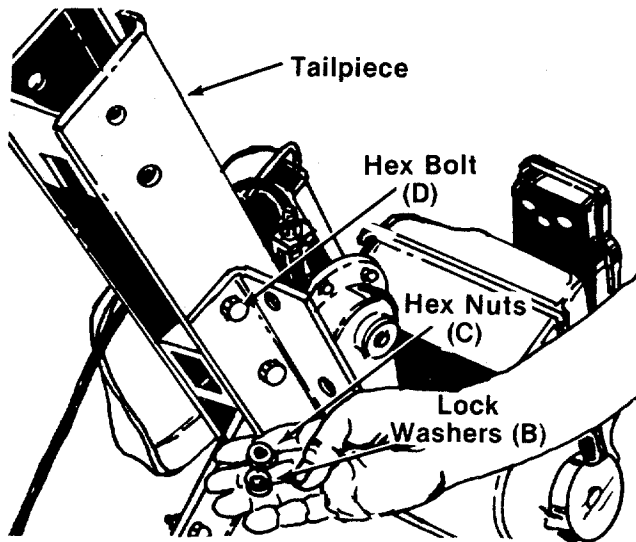

FIGURE 4.
4. Secure the tailpiece to the rear frame rails with two hex bolts (D), lock washers (B) and hex nuts (C). See figure 4. Tighten all four hex bolts and nuts securely. Two 1/2" wrenches are required.